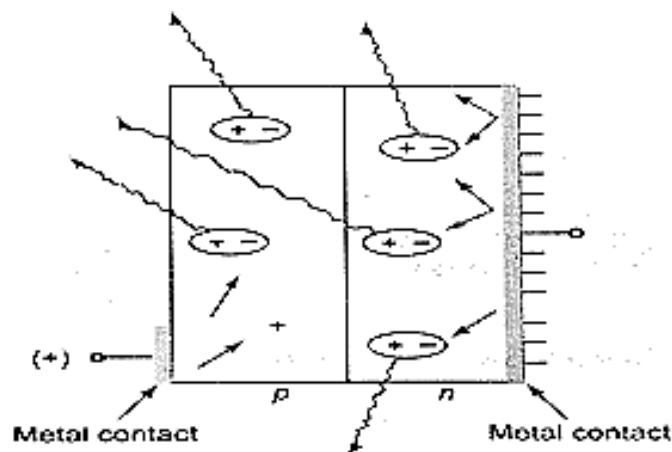

Fig.1.33: Light emission in PN junction
3. The process of light emission in pn junctions is illustrated in Fig.1.33.